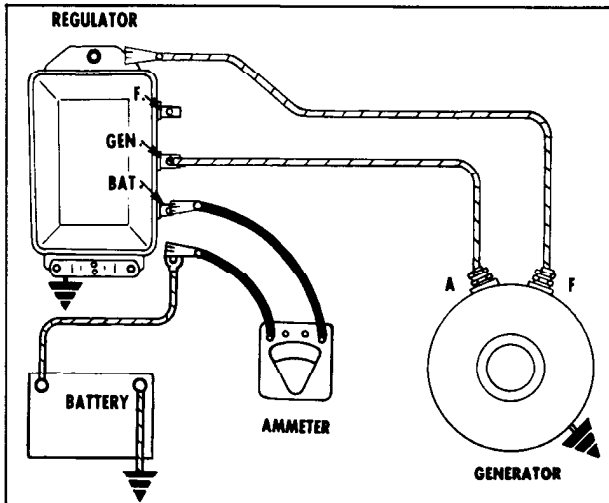

Fig. 13-25 Checking for Oxidized Points (40 Ampere)
3. Disconnect field lead from regulator "F" terminal and ground it on regulator base. Fig. 13-25. If ammeter reading increases more than 2 amperes, oxidized contact points are indicated. Regulator should be removed and contact points cleaned before proceeding to any other regulator tests.